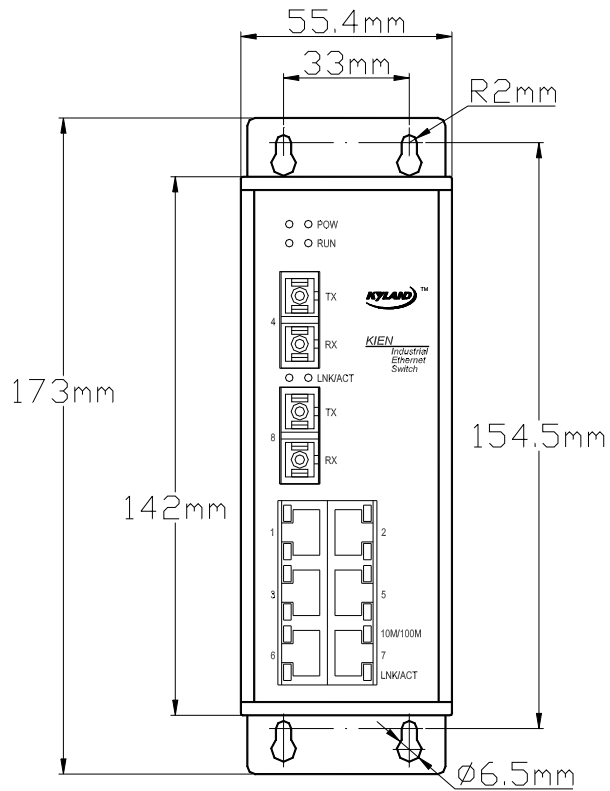

Figure 4-3 KIEN6000T wall-mounting dimensions
In some places, wall mounting may be more suitable than DIN rail mounting. KYLAND Telecom can provide the component (wall-mounting plate) for mounting KIEN6000T on wall. Wall-mounting dimensions are shown in Figure 4-3.
- 3 . Select mounting position: vertical wall or inner wall of cabinet. If you select to mount on vertical wall, you are recommended to use $\Phi 6$ plastic expansion bolts and $\Phi 3$ tapping screws for equipment mounting. According to the mounting dimensions marked in Figure 4-3, drill four $\Phi 6$ holes with an impact drill on the wall (the depth of the holes should allow fully inserting the plastic expansion bolt), fully insert the plastic expansion bolts in the holes on the wall, screw down the tapping screws into the plastic expansion bolts with a cross head screwdriver but do not screw down thoroughly, reserve a distance of around 5 mm; if you select to mount on the inner wall of cabinet, you are recommended to prepare four M3 threaded holes on the inner wall of cabinet when making the cabinet according to the mounting dimensions marked in Figure 4-3, or drill four $\Phi 4$ holes with a hand-held electric drill on site, and screw down four M3×10 pan head screws with cross recess into the four holes with a cross head screwdriver (if the holes are not threaded inside, it is necessary to mount four M3 nuts on the back side). Do not screw down the screws thoroughly, reserve a distance of around 5 mm.